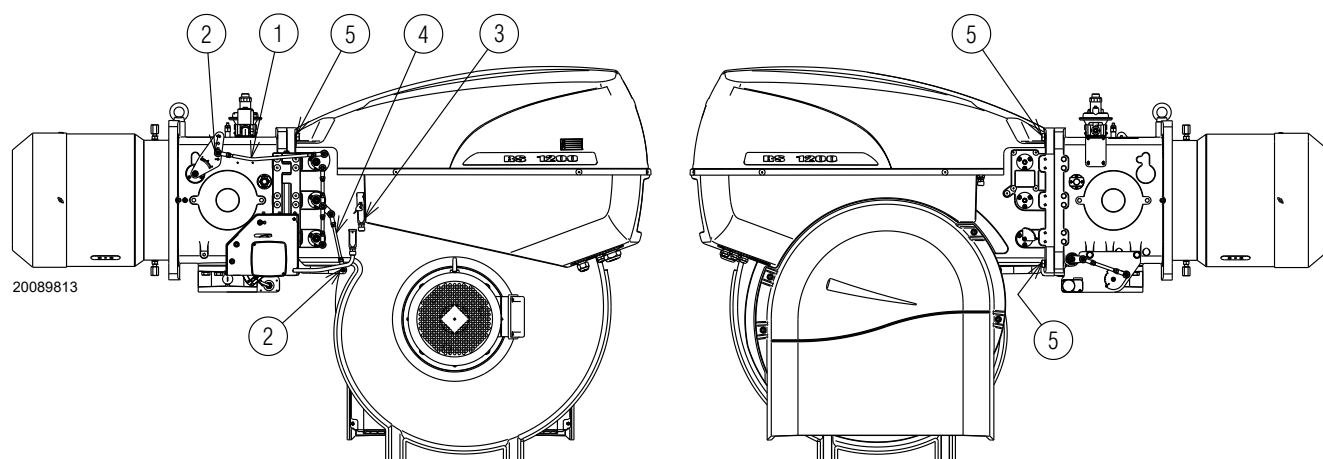

Fig. 36
- Remove the tie-rods 1) and 4)(Fig. 36) of the head movement and damper opening lever, loosening the nuts 2);